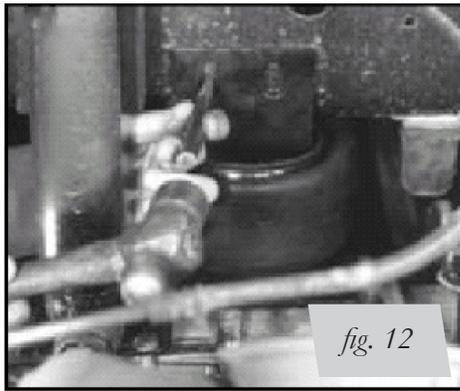

fig. 12
2. Put the upper bracket back into position on the frame rail and center punch ONE hole in the side of the frame rail (see fig. 12 on next page).